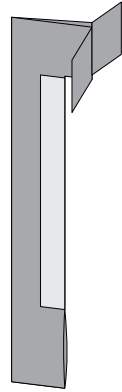

Figure 11
2. Crease each handle down the middle along the dotted line. Fold the tabs upward along the dotted lines. Tape the sides together in the middle. (Leave about 1" open at the end.) Then, tape each handle together on the bottom (Figure 11).